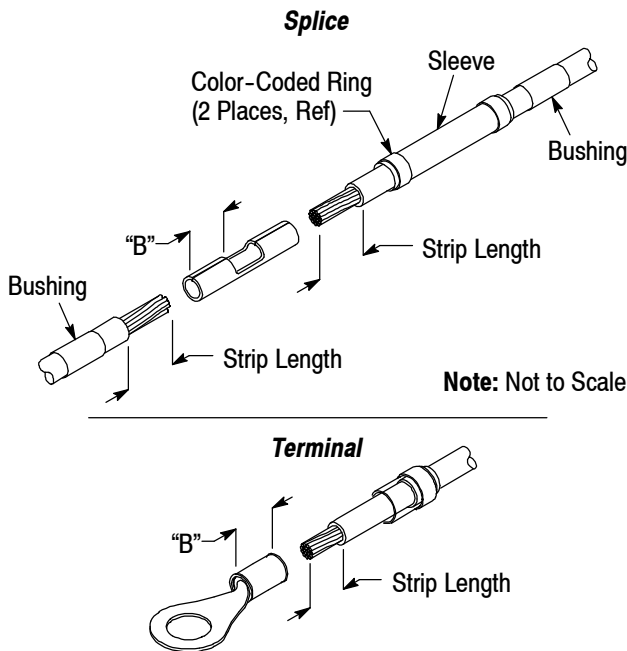

Figure 2
1. For splices, slide the insulation bushings onto the end of each wire. Slide the sleeve (or insulation tubing) onto one of the wires. Refer to Figure 2.
2. Strip the wires according to the dimensions shown in Figure 2. Do NOT nick or cut the wire strands.
1. Select the *maximum* size wire for the tool, and strip the wire according to Figure 2.